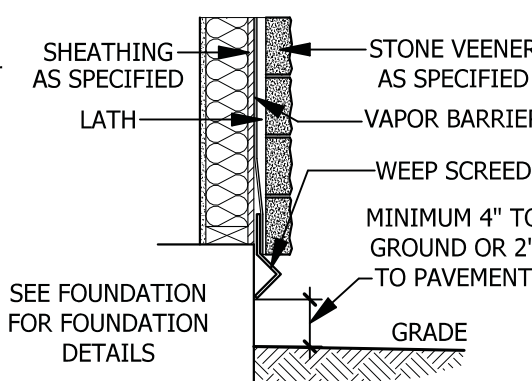

**FIGURE AM110 TYPICAL DECK STAIR DETAIL**
**AM110.1 Stairs shall be constructed per Figure AM110.** Stringer spans shall be no greater than 7 foot span between supports. Spacing between stringers shall be based upon decking material used per AM107.1. Each Stringer shall have minimum 3 1/2 inches between step cut and back of stringer. If used, suspended headers shall be attached with 3/8 inch galvanized bolts with nuts and washers to securely support stringers at the top.